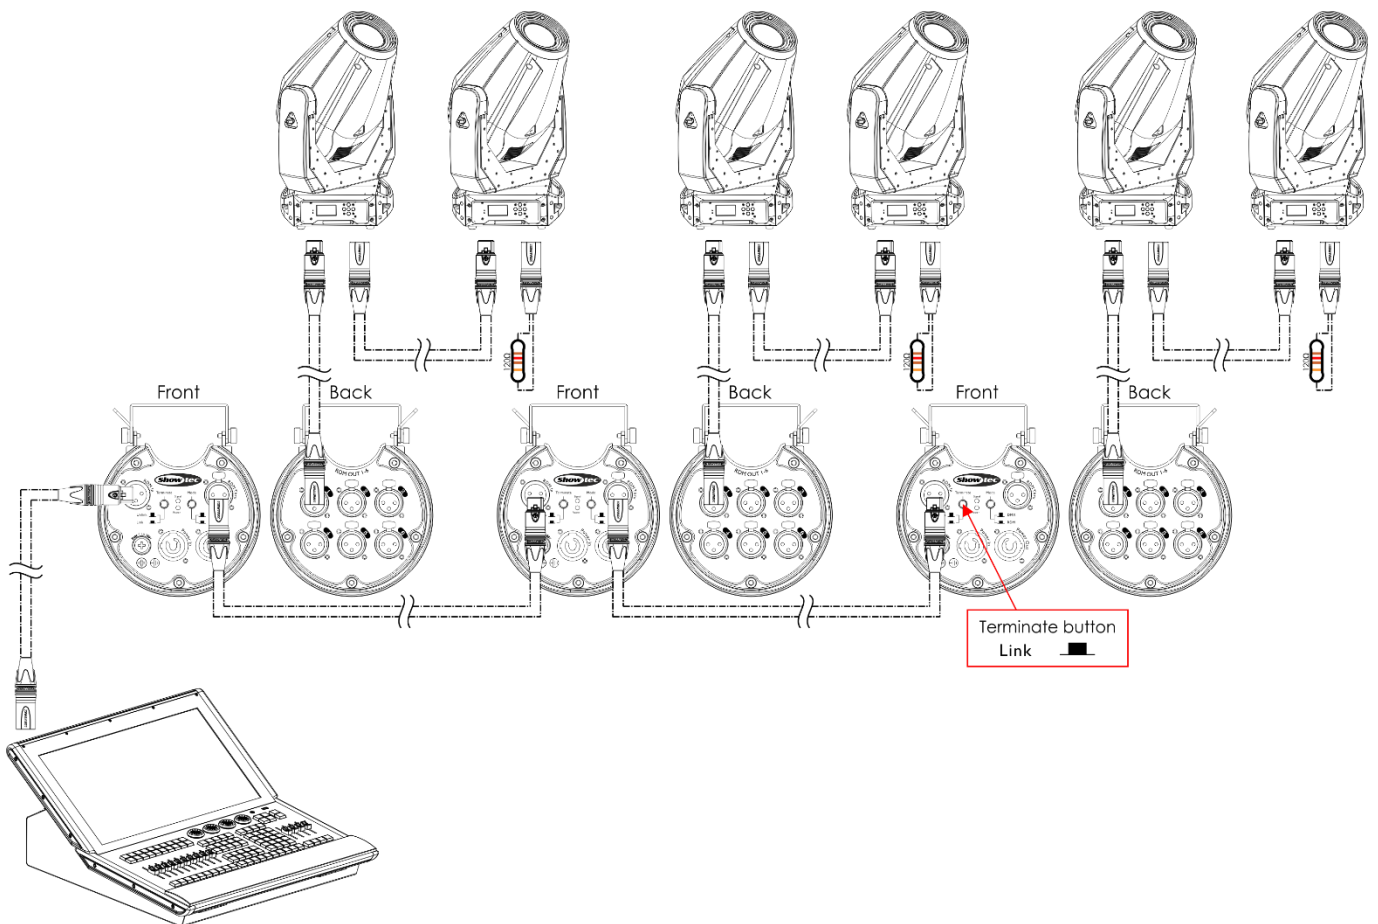

Fig. 04
- 05) Link the units as shown in Fig. 04. Connect the first unit's DMX "thru" socket with the second unit's "in" socket, using a DMX signal cable. Repeat this process to link the second, third, and fourth unit.